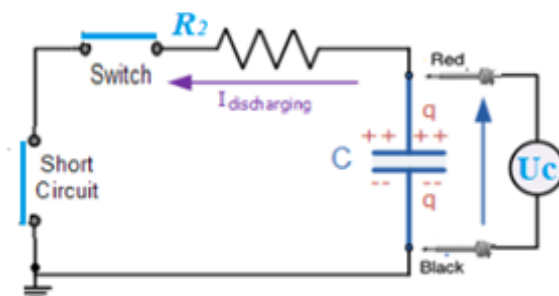

Figure. 4: RC Discharging Circuit.
When the switch is thrown into position 2 as in Figure.4, the battery is no longer part of the circuit and, therefore, the charge on the capacitor cannot be replenished. As a result, the capacitor discharges through the resistor. If we wish to examine the charging and discharging of the capacitor, we are interested in what happens immediately after the switch is moved to position 1 or position 2, not the later behavior of the circuit in its steady state.
Now remove the battery and wire up the circuit (a resistor and a capacitor are connected in series with a switch) shown in Figure 4. For the switch you will use one side of a double-throw switch. The resistance  $R_2$  is set on a variable decade resistance box and should be set at ..... $k\Omega$ . Use the same capacitor with capacitance labeled on..... It
A capacitor C is discharged through a resistance by putting switch S in position (B) of circuit shown in figure 4. Start the stopwatch and  $R_2$  turn the switch on simultaneously.